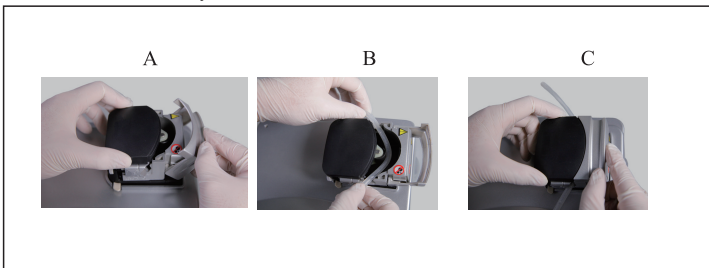

Fig.5
The foot switch of the DS-II (LED) must not be activated when the door of the peristaltic pump open. (Fig.5—Ref.B).Moving parts could injure the operator.
- a) Open the door(Fig.5—Ref.A)as far as it will go.
- b) Position the tube in the impeller(Fig.5—Ref.B).
- c) Close the door completely(Fig.5—Ref.C).
The footswitch of the DS-II (LED) must not be activated when the door of the peristaltic pump open. (Fig.5—Ref.B).Moving parts could injure the operator.